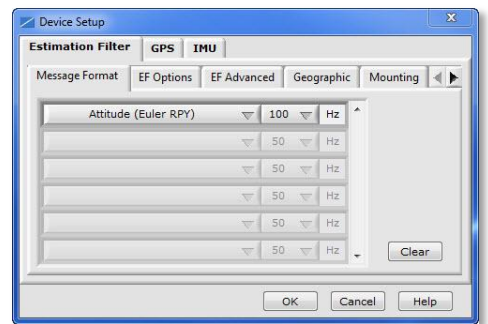

Figure 3: Device Setup screen
5. Click Device and the Device Setup window appears, as shown in Figure 3.